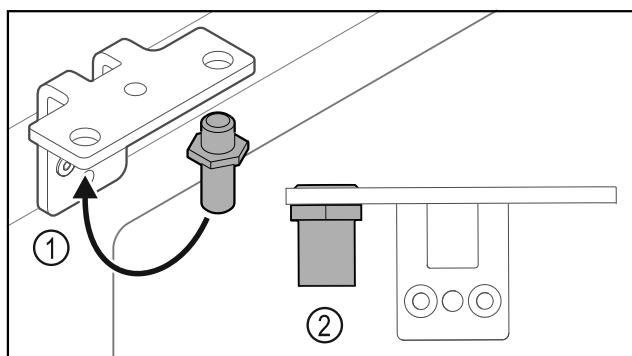

Fig. 35
- ▶ Put the pin back into the hinge Fig. 35 (1).
- ▶ Tighten the pin Fig. 35 (2) to a **torque of 12 Nm**.